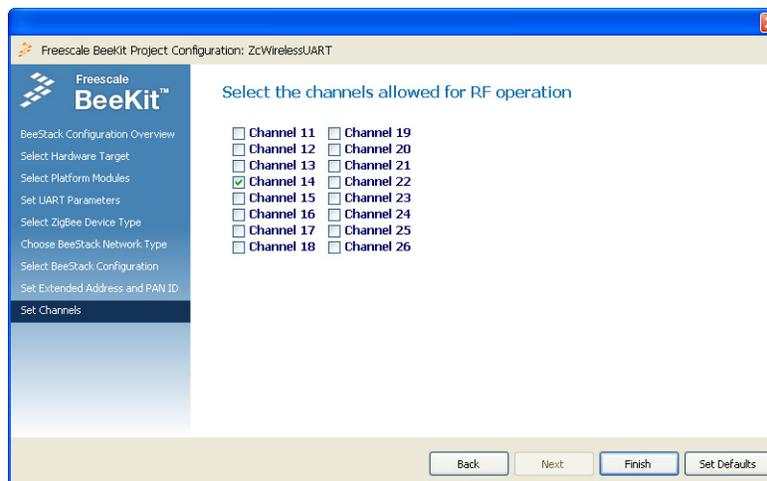

Figure 5-11. Channels Page
- Click the Next button and the Set Channels window appears as shown in Figure 5-11. Select ‘Channel 14’.
7. Click the Next button and select the same channel as the Coordinator as shown in Figure 5-11.